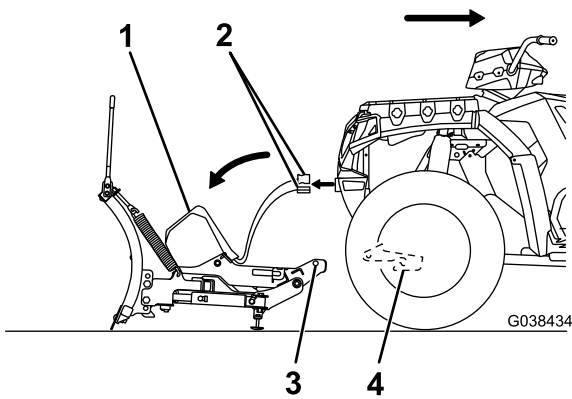

Figure 22
4. Using the coupler handle, lower the coupler tower completely (Figure 22).
5. Disconnect the plow wire harness from the vehicle wire harness and secure the electrical-plug dust-covers (Figure 22).